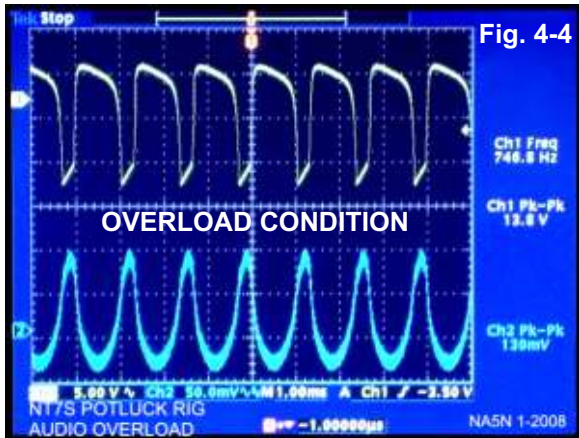

Fig. 4-4
**Overload.** Audio becomes distorted in any receiver on very strong signals (or poor design), caused by the amplifiers in gain compression. Fig 4-4 illustrates *gain compression*. With -10dBm input to force an extreme overload condition, the output of Q14 goes from cut-off to saturation, forming a raspy sounding square wave. From -128dBm MDS to -14dBm P1dB, a clean sinewave audio should be seen at Q14 collector.